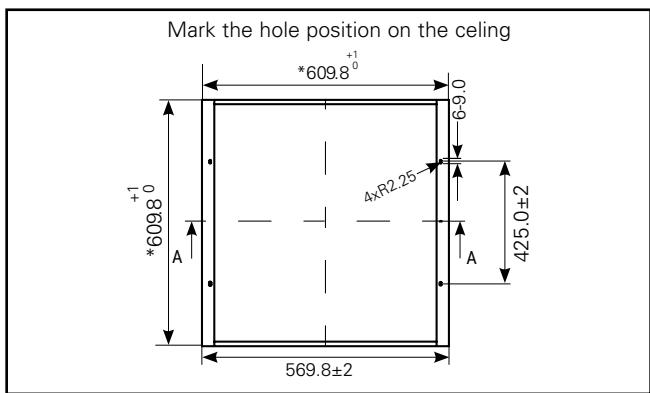

Figure 8.
**Step 1:** Mark the mounting hole position on the ceiling, using the assembled frames as reference. (See Fig. 8.)